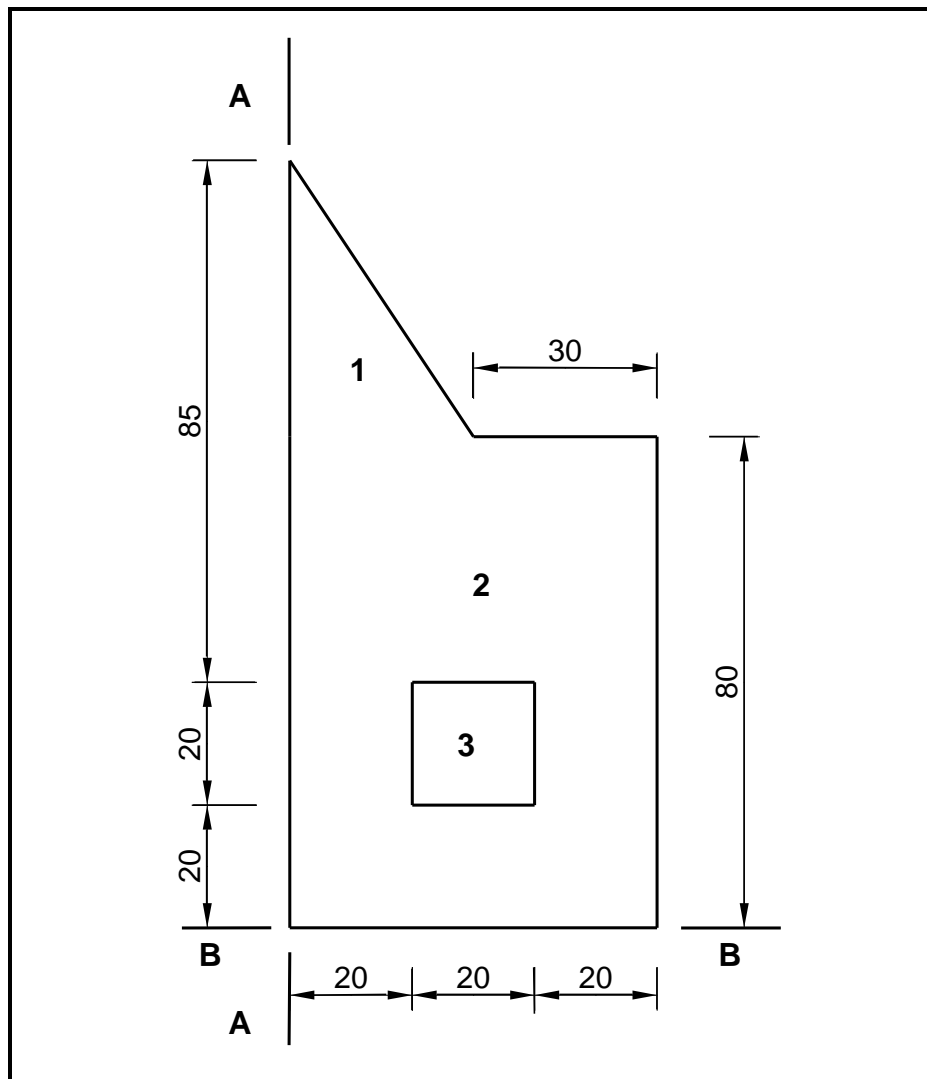

FIGURE 5.1
- 5.1 FIGURE 5.1 below shows a shaped lamina with a square hole. All dimensions are in millimetres.